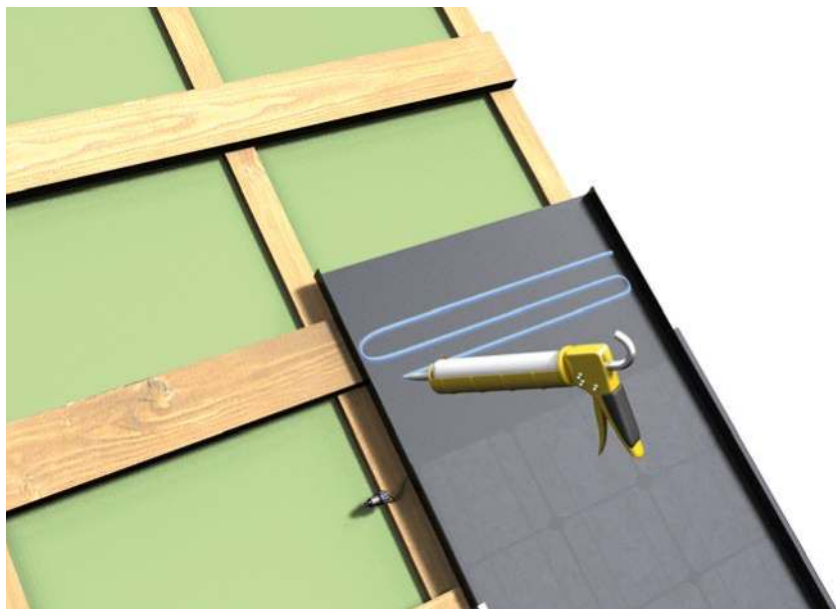

Fig. 9
**3.8** The upper part of the panel (where the overlapping area is) should then be prepared for the second panel by using **three layers of adhesive sealant** (Fig. 9).